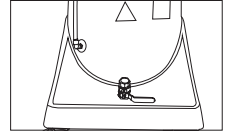

Figure 8
2. Open the lower ball valve (Figure 8).